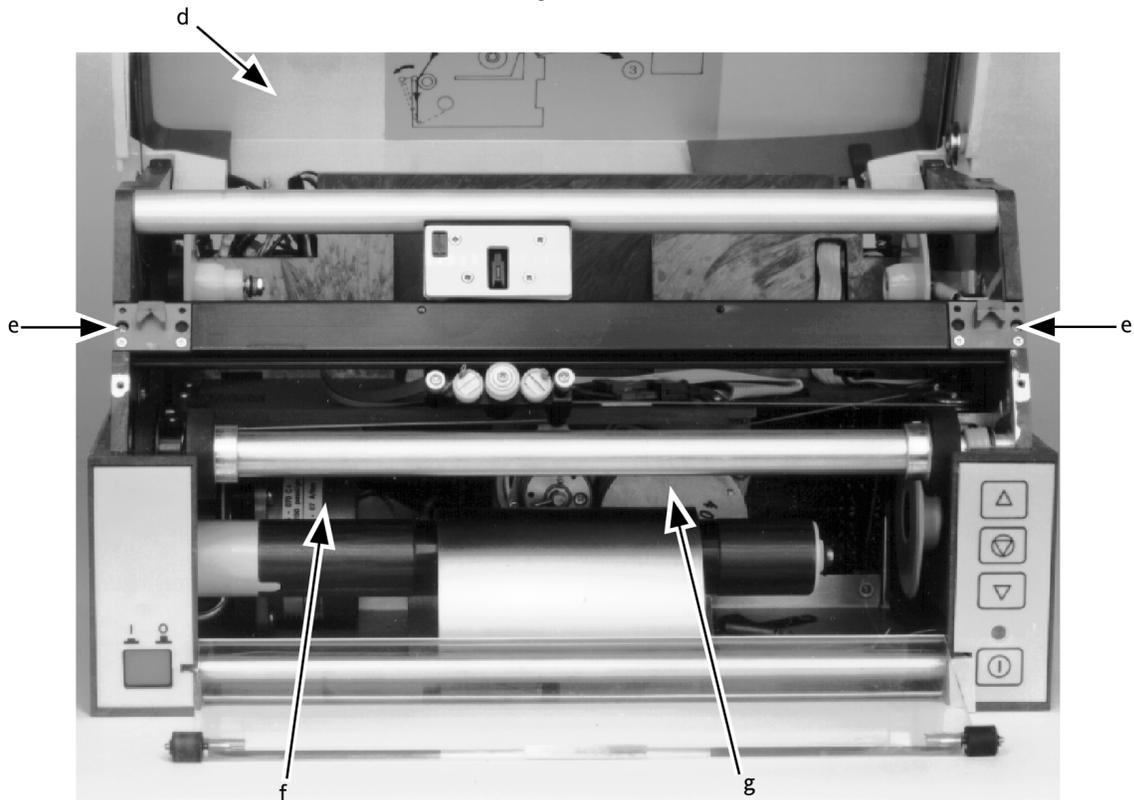

Figure 5.12.3b
- d Inside the writing system top cover (figures 5.12.3b and d)
- e Both print head carriage guide rail fixing screws (figure 5.12.3b)
- f Chart drive motor casing (figure 5.12.3b)
- g Servo/colour select servo motor casing (figure 5.12.3b)